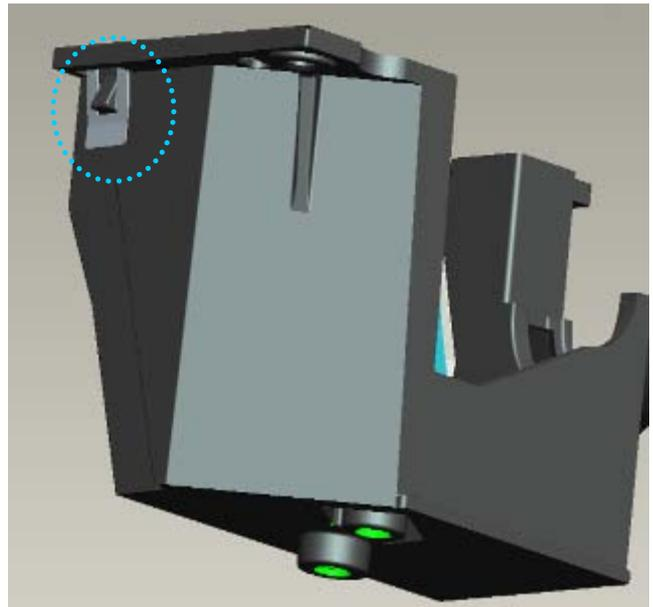

Fig. 6-5
- IV. To check and make sure “CLIP of CM” hooks the HSG ILL very Well (Fig. 6-5).